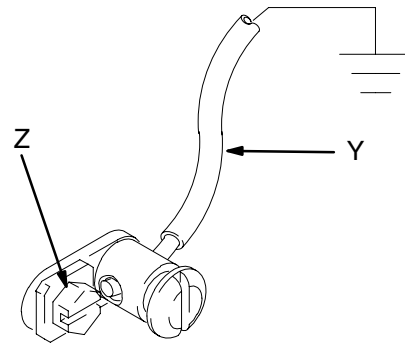

Fig. 1
- *Pump:* Use a ground wire and clamp as shown in Fig. 1.
**To ground the pump,** remove the ground screw (Z) and insert through the eye of the ring terminal at end of the ground wire (Y). Fasten the ground screw back onto the pump and tighten securely. Connect the other end of the ground wire to a true earth ground. See Fig. 1. *To order a ground wire and clamp, order Part No. 222011.*